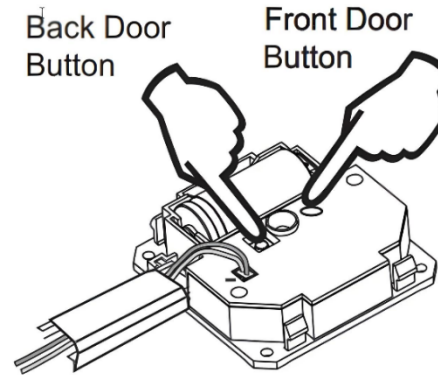

Figure 3
- Press the "front door" or "back door" button (see Figure 3). You should see a red LED light up to show that the transmitter works correctly.
4. Push the “front door button” (see Figure 3) on the LRA-EXTX-L. The receiver will play a quick ding sound, notifying the transmitter that it is programmed to the receiver.
- Push the front door button on the transmitter (see Figure 3) to change the melody for the front door.